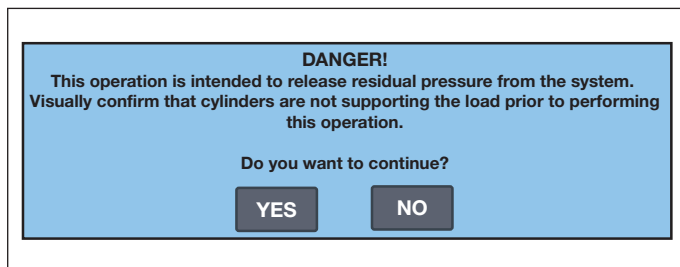

Figure 36, Warning advise for pressure releasing purposes
6. The system requires a second check to be sure the cylinders do not have any load. When it is confirmed that no load is withstood by the cylinders, tap Yes button. Refer to Figure 36.